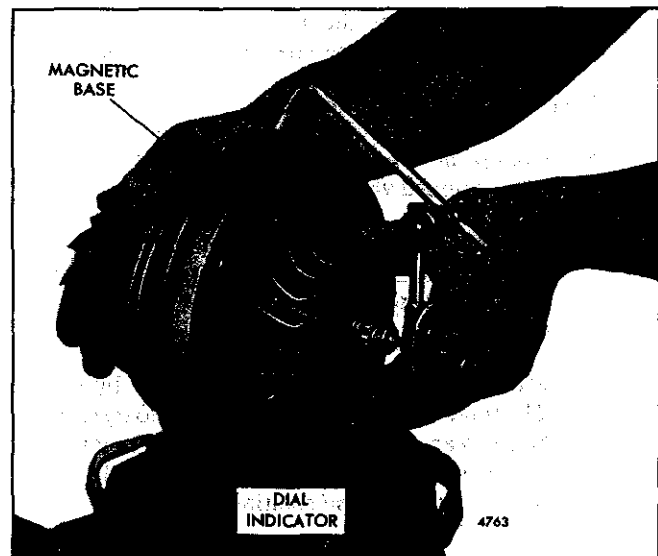
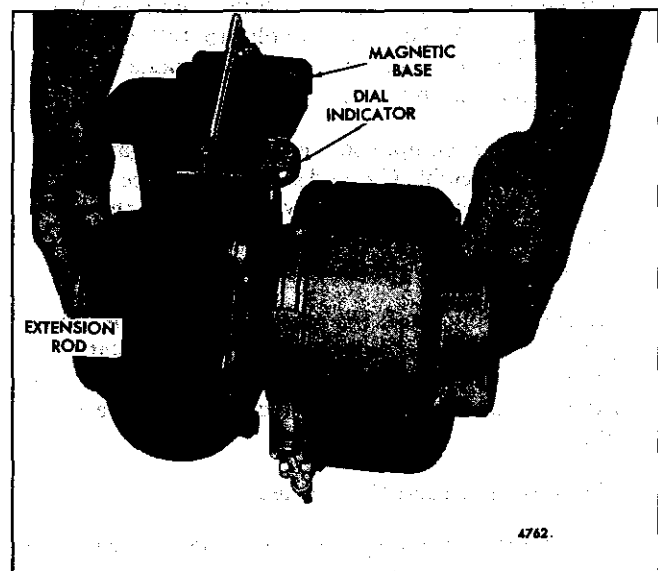

Fig. 9 – Checking Bearing Axial End Play
Fig. 10 – Checking Shaft Radial Movement
- a. Clamp the center housing assembly in a bench vise equipped with soft jaws as shown in Fig. 9.
16. Position the turbine housing (6) as marked at disassembly against the center housing (26) and secure it in place with four clamps (5), four lockplates (4) and eight bolts (3). Tighten the bolts to 160-190 lb-in (18-22 N·m) torque. Bend the lockplate tabs up against the flat on the bolt heads.
17. Position the compressor housing (2) against the backplate assembly (14) and secure it in place with the "V" band coupling (1). Lightly lubricate the threads of the toggle bolt with engine oil and tighten the nut on the coupling to 30-45 lb-in (3-5 N·m) torque.
- a. Position the magnetic base J 7872-2 with the swivel adaptor J 7872-3 on the flat surface of the turbine housing inlet flange as shown in Fig. 10.